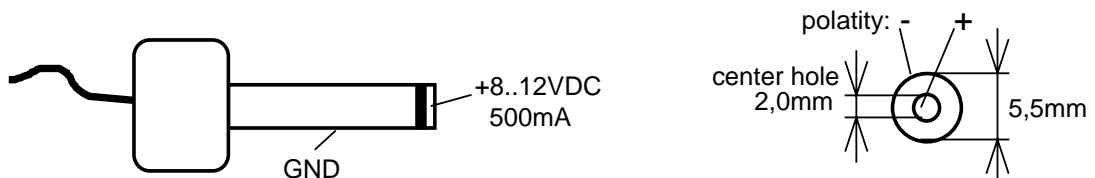

Figure 3: The Power-Plug
- Attach a power supply to the power-connector X5. An unregulated 8 V= to 12 V=/500 mA power source can be used to supply the board. Use only a fixed voltage power supply and no power supply with variable voltage. Double-check the correct polarity of the socket as shown in *Figure 3*. If the power supply is attached correctly the red LED D4 will light up.
- Attach a power supply to the power-connector X5. An unregulated 8 V= to 12 V=/500 mA power source can be used to supply the board. Use only a fixed voltage power supply and no power supply with variable voltage. Double check the correct polarity of the socket as shown in *Figure 3*. If the power supply is attached correctly the red LED D4 will light up.